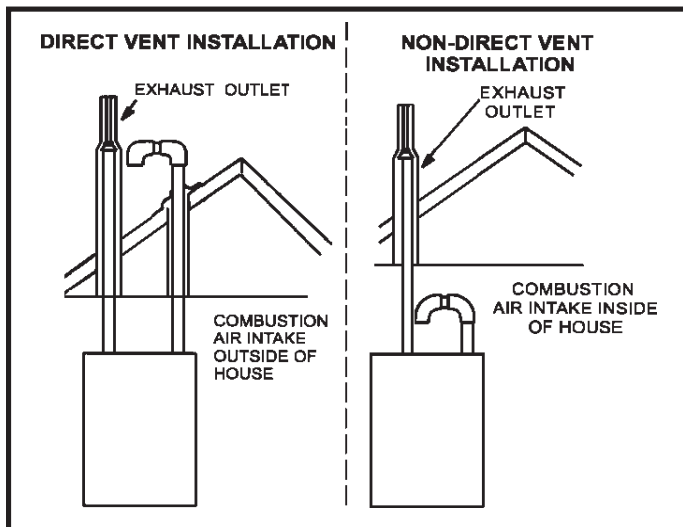

Figure 2
**NOTE:** In Direct Vent installations, combustion air is taken from outdoors and flue gases are discharged outdoors. In Non-Direct Vent installations, combustion air is taken from indoors and flue gases are discharged outdoors. See Figure 2 for applications involving roof termination.